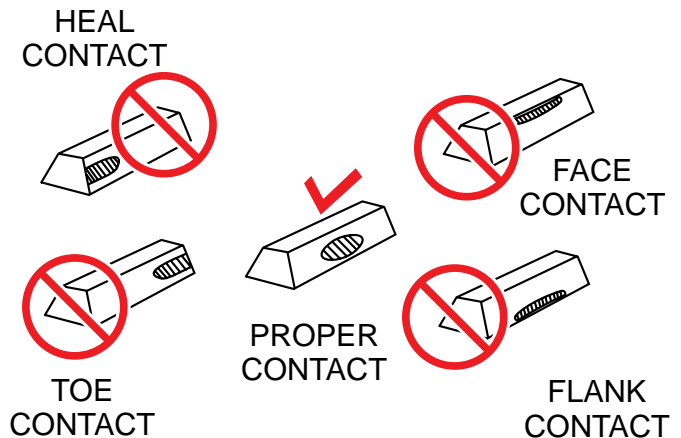

Figure 44. Gear Teeth Alignment
4. If gear teeth are not contacting properly (Figure 44), adjust pillow block to correct the problem.